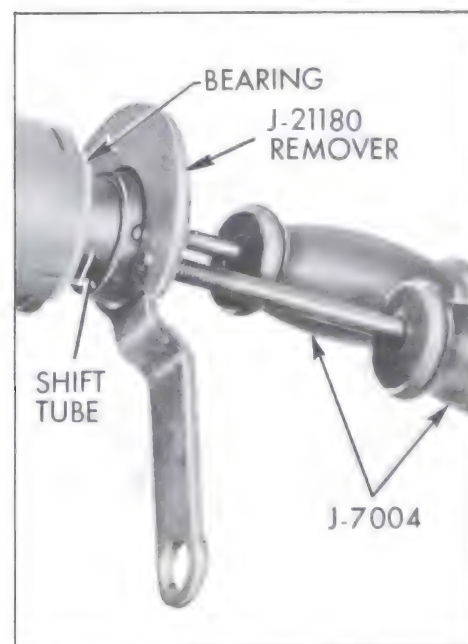

Figure 8-84—Removing Shift Tube
5. Remove the shift tube downward through column with two Slide Hammers J-7004 and Tool J-21180, driving against lower shift lever. See Figure 8-84.